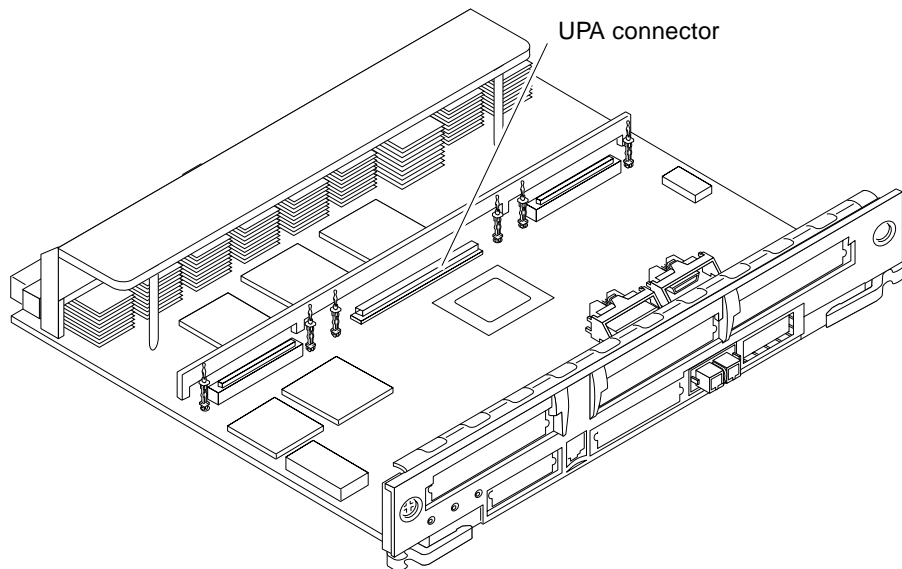

FIGURE 4-15 Graphics (UPA) Card Connector Location
The Graphics+ I/O board contains a single connector that accommodates graphics (UPA) cards (FIGURE 4-15).
2. Locate the card (FIGURE 4-15).
See FIGURE 4-15 on page 4-18.